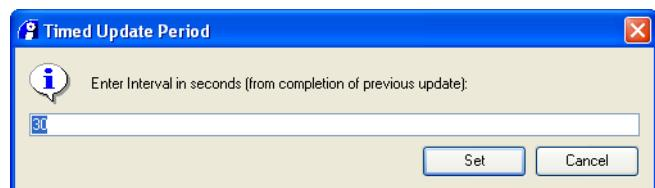

Figure 13-52 Timed Update Period dialog box
3. Select **Timed Update Period...** from the context menu to display the Timed Update Period dialog box. Figure 13-52 shows an example: